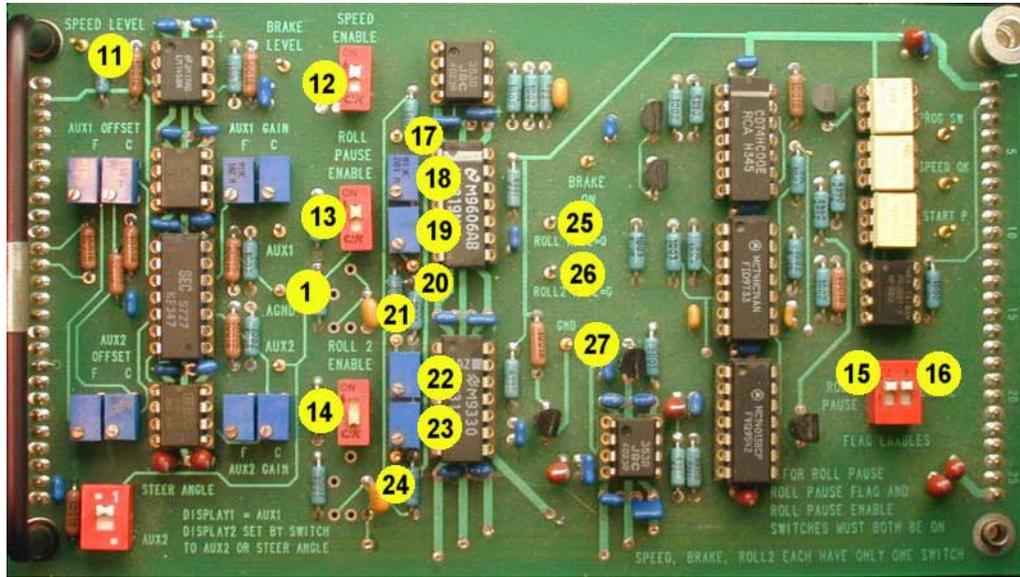

Figure 4: Test Control Module identifying controls for pause and brake
- The Speed Enable switch on the Test Control module must be ON (“11” in Figure 4).
1. Measure the voltage at the window upper limit test point ("17" in Fig. 4) with AGND as ground reference ("1" in Fig. 4).
2. Adjust the upper limit pot ("18 in Fig. 4) so that the test point voltage is correct.
3. Measure the voltage at the lower limit test point ("20" in Fig 4) with the same ground reference.
4. Adjust the lower limit pot ("19 in Fig. 4) so that the test point voltage is correct.
- The ROLL Pause Enable switch and the Roll Pause Flag Enable switch must both be ON (Marked "13" and "14" in Figure 4).
A second window comparator is present on the Test Control Module. Calibration of this is identical to the first comparator, with the obvious exception of the test points and pots used (21, 22, 23, 24 in Fig 4).